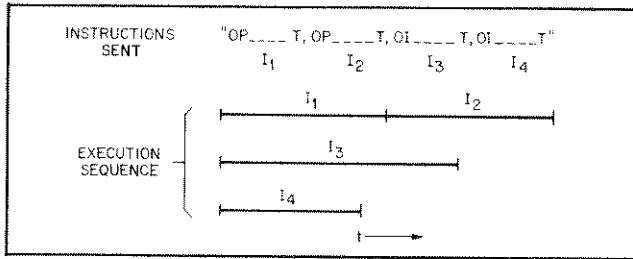

Figure 5-7. Like Instructions in Parallel Mode
1. Only one instruction of each type (except OI and II) can be running at any one time. Thus, instructions of the same type run in sequence. Figure 5-7 illustrates how two OP's and two OI's would run in the parallel mode.